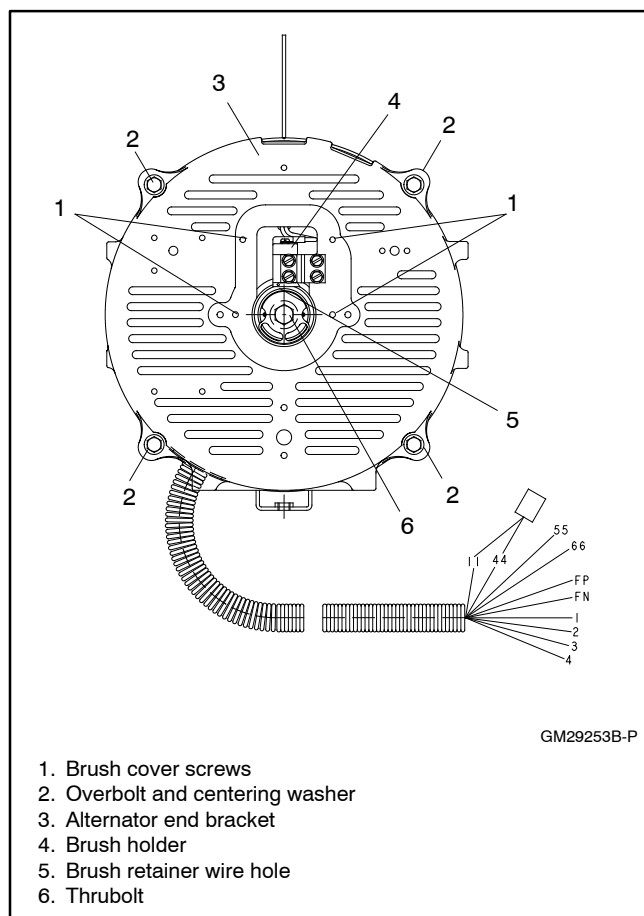
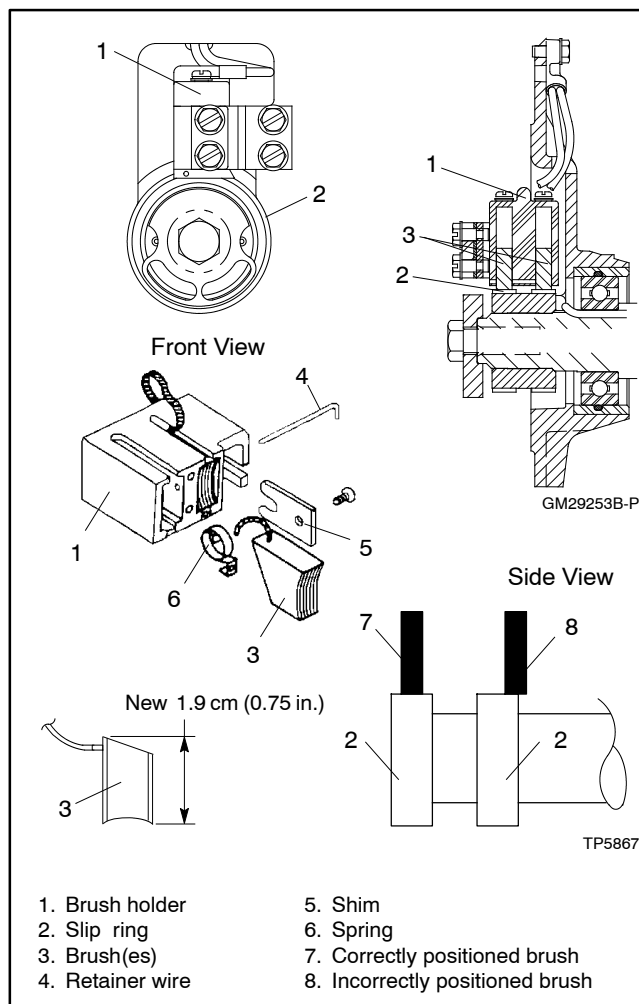

Figure 7-10 Alternator End Bracket
Figure 7-11 Brush Details
- c. Remove 4 screws securing the brush cover to the alternator end bracket. See Figure 7-10.
- d. Raise the brushes in the brush holder and insert a small piece of wire into the brush holder retainer wire hole. See Figure 7-10 and Figure 7-11.
- e. Remove the alternator overbolts and centering washers. See Figure 7-10.
- a. Remove the brush holder from the end bracket. See Figure 7-10.
- b. Inspect the brushes. Replace brushes when they are worn to half of their original size. See Figure 7-11 and Section 6.6, Brushes.